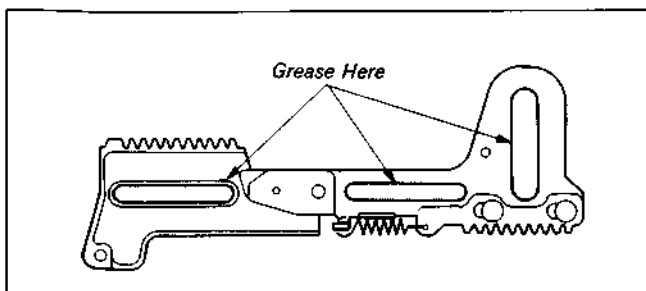
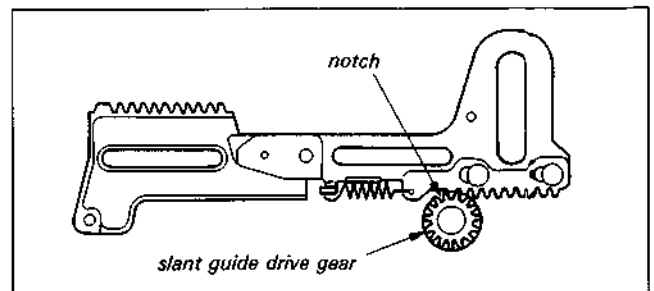

Fig. 7-31.
Fig. 7-32.
Note: At this time, confirm the engagement position of the slant guide drive gear and L slider assembly gear. (See Fig. 7-32.)
- 1) Lubricate the portions indicated in Fig. 7-31.
- 2) Mount the tension regulator load arm assembly ② and the stopper washer ⑥.
- 3) Mount the L slider assembly ④ while pushing the RL arm assembly protrusion ⑤ in the direction of arrow.
- 4) Put the tension regulator load arm assembly ② pin into the M slider groove. (Refer to 7-3-15. M slider)
- 5) Mount the two stopper washers ③.
- 6) Refer to 3-4, 2. Mounting, 2), and place the tension regulator load arm assembly ② pin in the tension regulator arm assembly cam groove.
- 8) Engage the slant guide drive gear so that the notch is 1 tooth away from the L slider assembly left side tooth. (See Fig. 7-32.)
- 9) Mount the entrance guide (P) assembly according to 7-3-10., 2. Mounting.